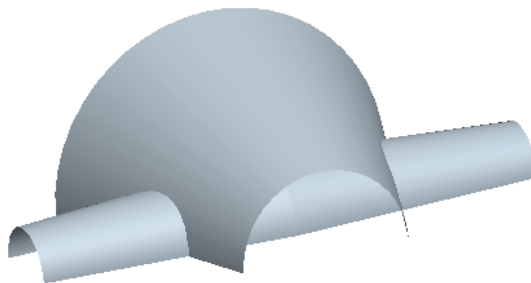

Figure 13-76 Surface model after creating the third feature
- The third feature is a mirror feature that will be created by mirroring the second feature about a plane passing from the center, refer to Figure 13-76.
2. Select the **FRONT** datum plane and exit the **Mirror** dashboard by choosing the **Build Feature** button. The mirror copy of the second feature is created as shown in Figure 13-76.